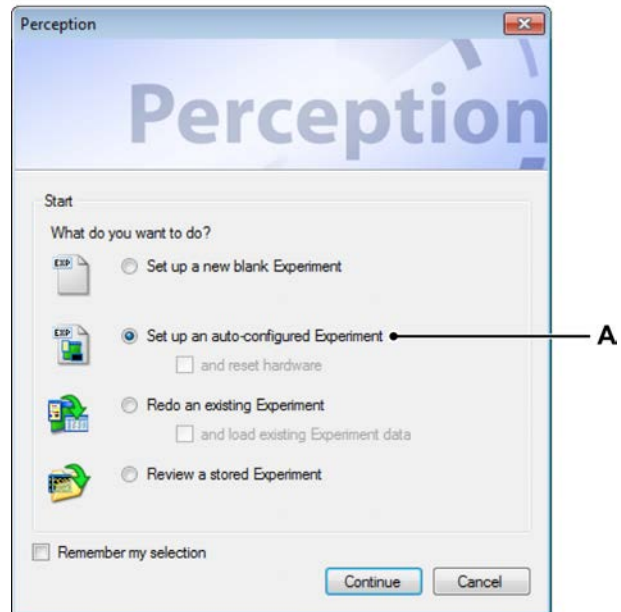

Figure 8.3: Perception job dialog
- 3 Perception will continue to start. To continue, Perception will ask which job it should perform (see Figure 8.3):